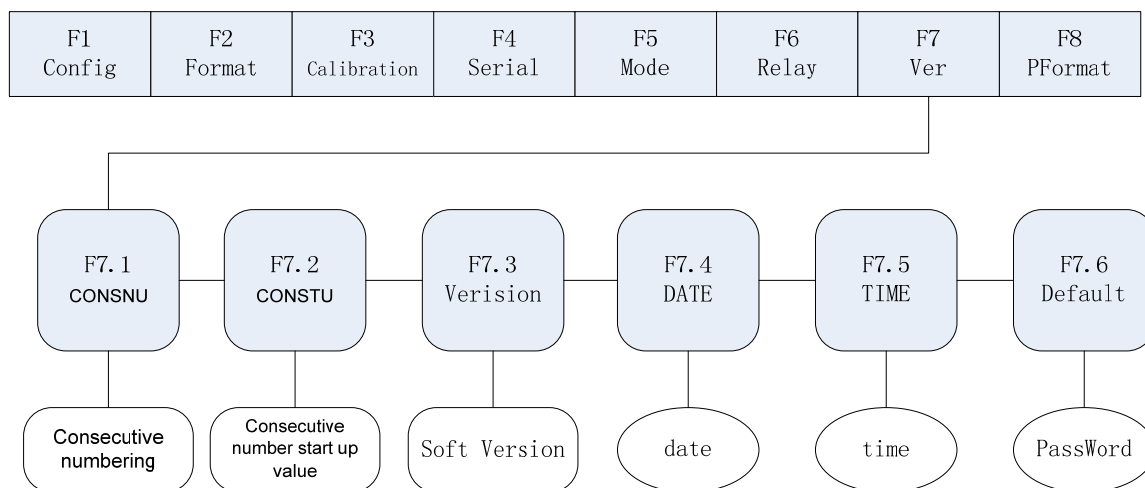

Fig. 7-2 Consecutive Numbering Setup
- (1) Turn on the K1 switch to set indicator to the Configuration mode. Display shows "F1".
- (2) Press  $\blacktriangleright$  until display shows "F7" (see Fig. 7-2). Press  $\blacktriangledown$  to go to F7.1 Menu. Display shows "F7.1"
- (1) Follow points (1) and (2) to enter into F7 Menu.
- (2) When display shows "F7.1", press  $\blacktriangleright$  until display shows "F7.4" (see Fig. 7-2). Press  $\blacktriangledown$  to enter into Date setup mode and display shows "DD.MM.YY". Follow Fig. 4-2 to set to the current date.
- (3) When date setup is complete, press  $\bigcirc$  to return to F7.5 Menu. Display shows "F7.5".